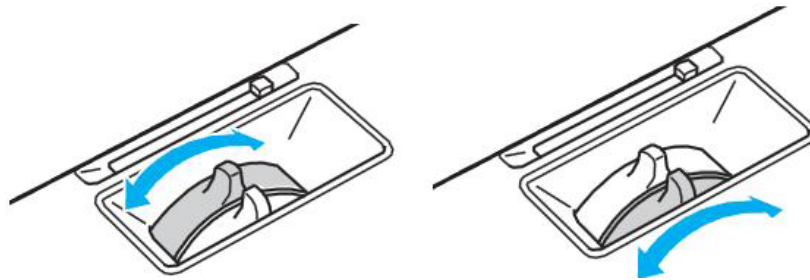

Figure 9: Left: Projector Focus dial Right: Projector Zoom Dial
1. Adjust focus control (front ring near lens) on projector to sharpen screen image. See Figure 9.